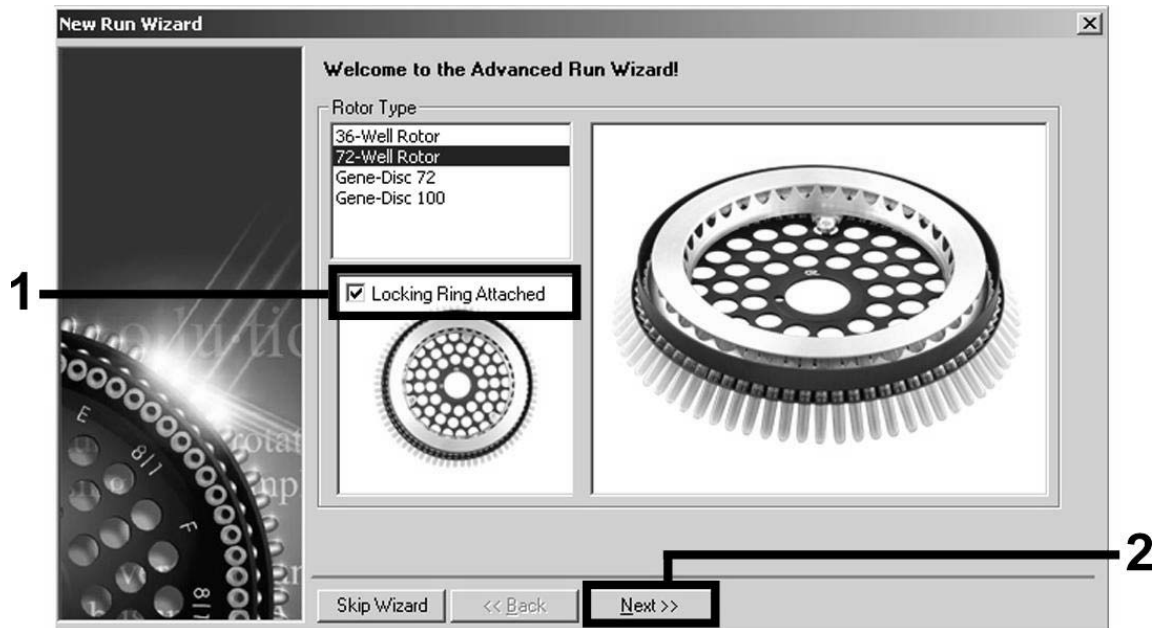

Figure 5. The “New Run Wizard” dialog box.
Setting the general assay parameters	Figures 5, 6, 7
4. First, open the “New Run Wizard” dialog box (Figure 5). Check the “Locking Ring Attached” box and click “Next”.